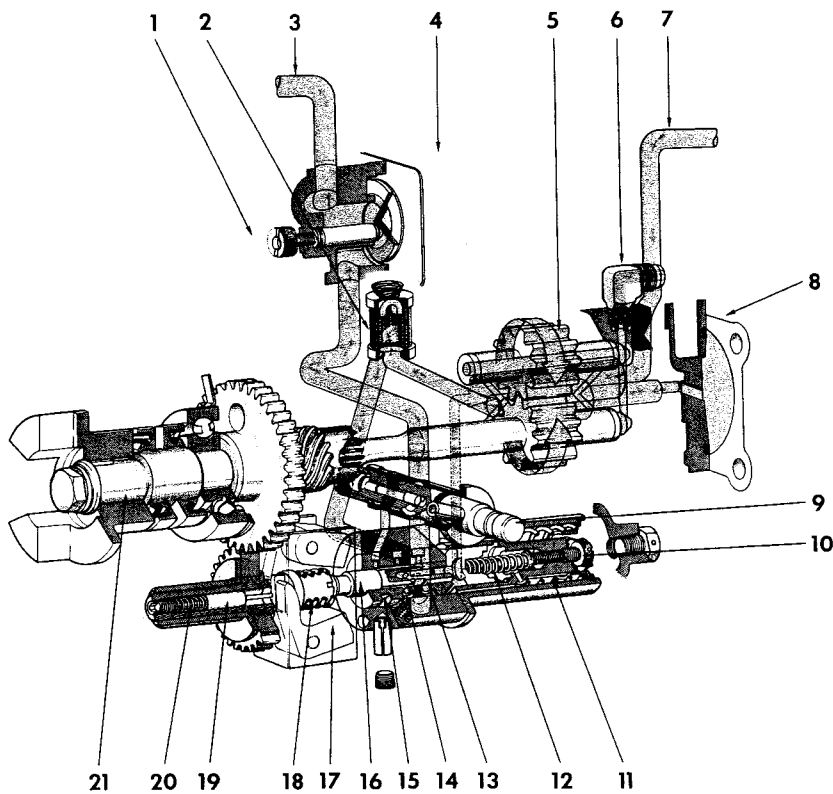

Fig. 5-3, (FWC-31). PT (type G) fuel pump and fuel flow
The PT fuel system consists of the fuel pump, supply lines, drain lines, fuel passages and injectors, Fig's. 5-1 and 5-2. There are two types of PT fuel pumps. The first type, commonly called PT (type G), is shown in Fig. 5-3. The second type, called PT (type R), is shown in Fig. 5-4.
1. In the PT (type G) fuel pump to the governor assembly as shown in Fig. 5-3.